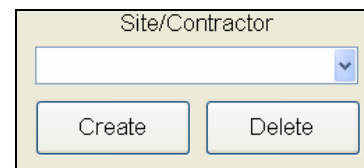

Figure 9.1.4
2. Under the Site / Contractor section click on the **Create** button (Figure 9.1.4).